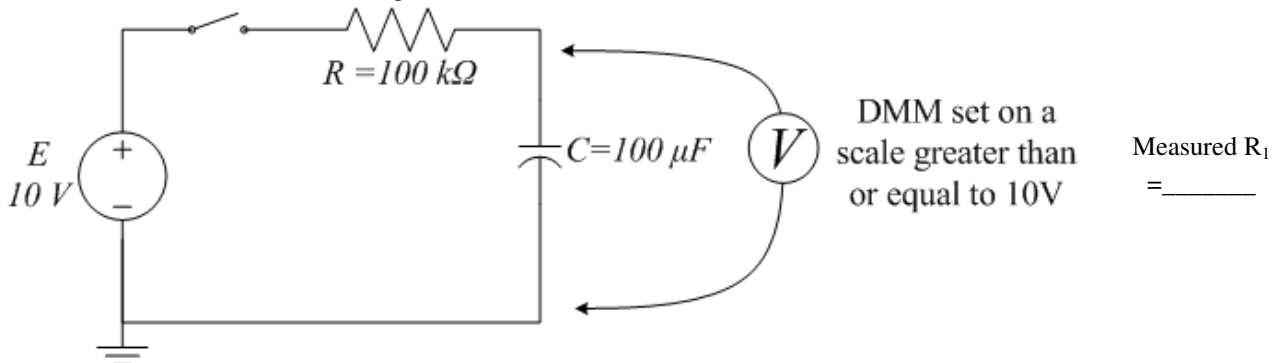

Figure 6.2: Circuit used to determine C
- 1) Construct the network of Fig. 6.2. Record the measured resistor value.
Determine C_{measured} for the capacitor of Fig. 6.2, recording the result in Table 6.4.